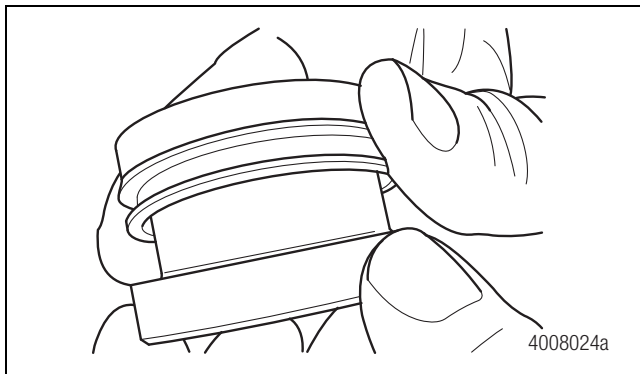

Figure 6.40
1. Place the retainer onto a suitable driver from Meritor tool MST1000. Figure 6.40.